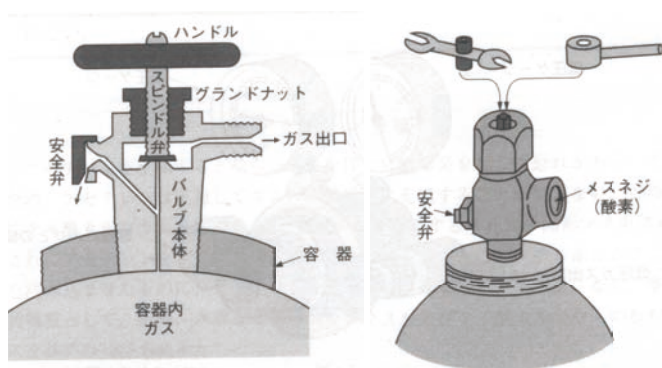

Fig. 4-3. The structure of valve and valve with wrench
(2) Handling methods of valve (Fig. 4-3)